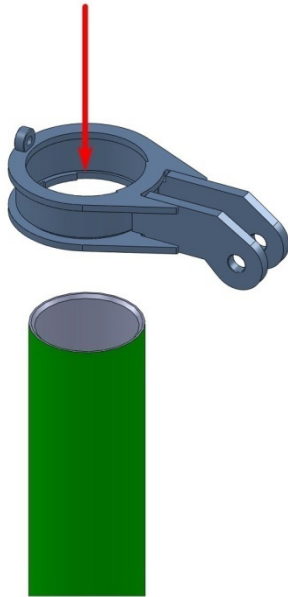
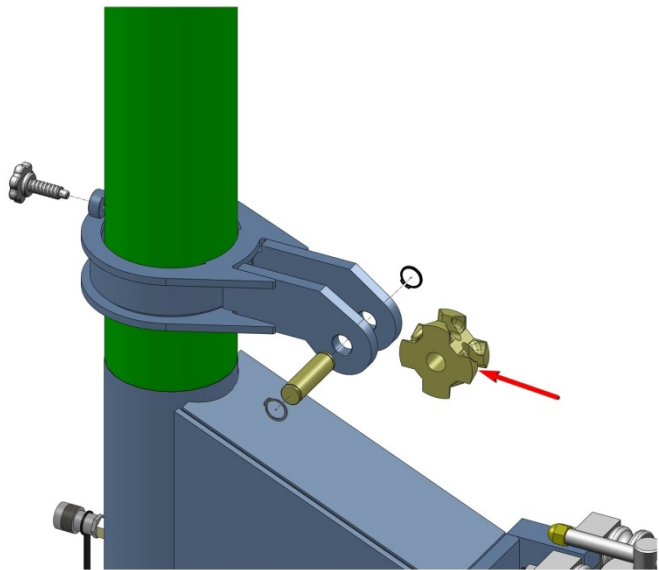

Figure 6.10
Figure 6.11
6.2.3 Collar installation: Firstly install the collar throw the top of the tower. See figure 6.10. Secondly, install the hand bolt, Sprocket wheel, axes onto the collar. See figure 6.11